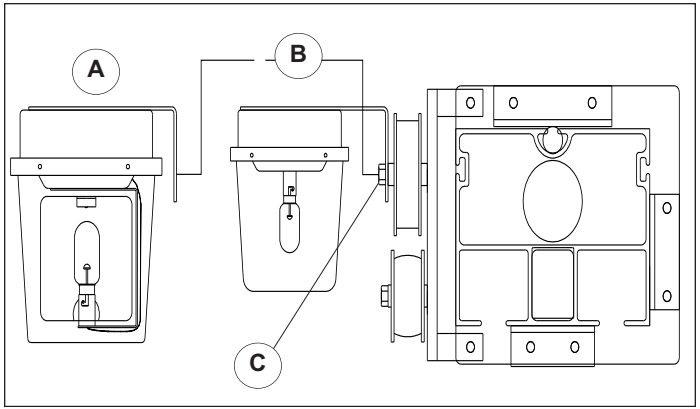

Figure 26.3
4. Remove the top bolt (C) in pulley bracket and install the strobe or beacon. Reinstall the bolt and torque to 33lb-ft, [45nm], Figure 26.3.